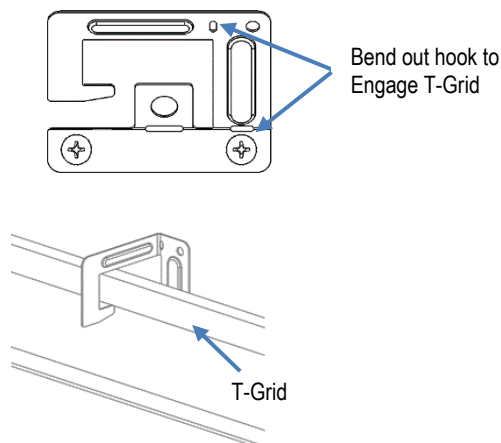

FIG. 10: T-GRID MOUNTING
- b. From above ceiling, bend the attached T-Grid clips over the T-Grid ceiling on all 4 corners to secure the fixture to the T-Grid. See Figure 10.